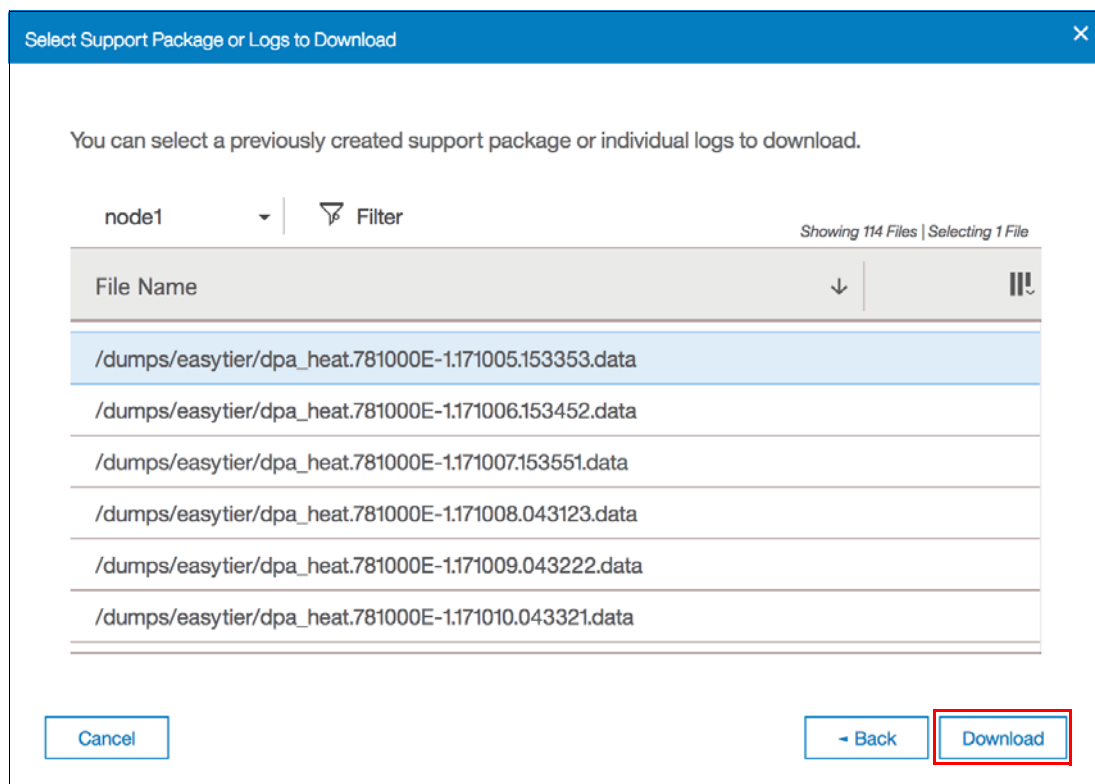

Figure 9-22 Select Support Package or Logs to Download panel
- Click **Download Existing Package** to open the panel shown in Figure 9-22 on page 427. Select the required Easy Tier log file and click **Download**.